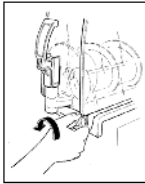

Fig. 1
- Unscrew and slip off the knobs (fig. 1) then lower the bowl to eliminate any product residue through the dispensing tap.